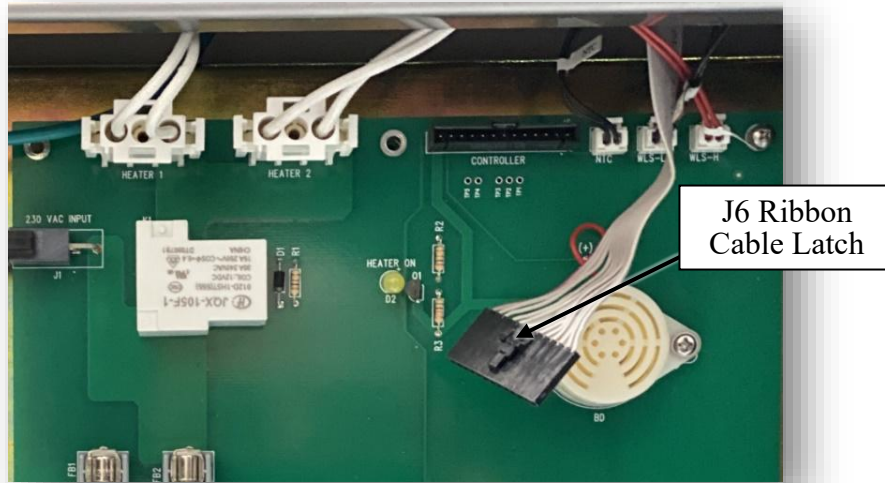

Figure 46 – J6 Ribbon Cable
- d. Unplug the SCA from power and reseal the J6 Control Panel ribbon cable. Press the latch with a thumbnail (**See Figure 46**) and wiggle the connector out of the slot. Press the connector firmly back into the slot and ensure it snaps in securely. Power on the SCA and see if the issue is resolved. If there still is no apparent power to the Control Panel, and the 12V DC OK LED is lit, replace the Control Panel.